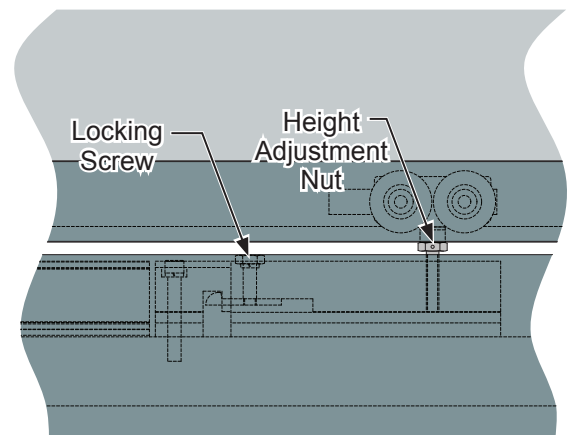

FIG. 17
4. If height adjustment is required, rotate the height adjustment nut until the desired height is achieved. **(Fig. 17)**